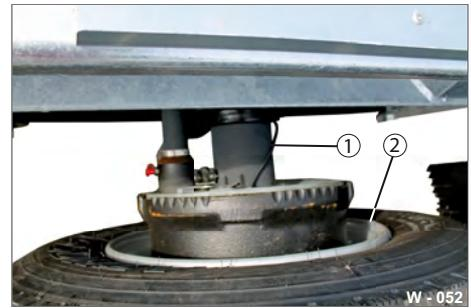

Fig. 52 Putting lifting device into position
- ▶ Position the lifting device as far outside as possible, in the lifting device area (Fig. 52/2) under the axle tube (Fig. 52/1).